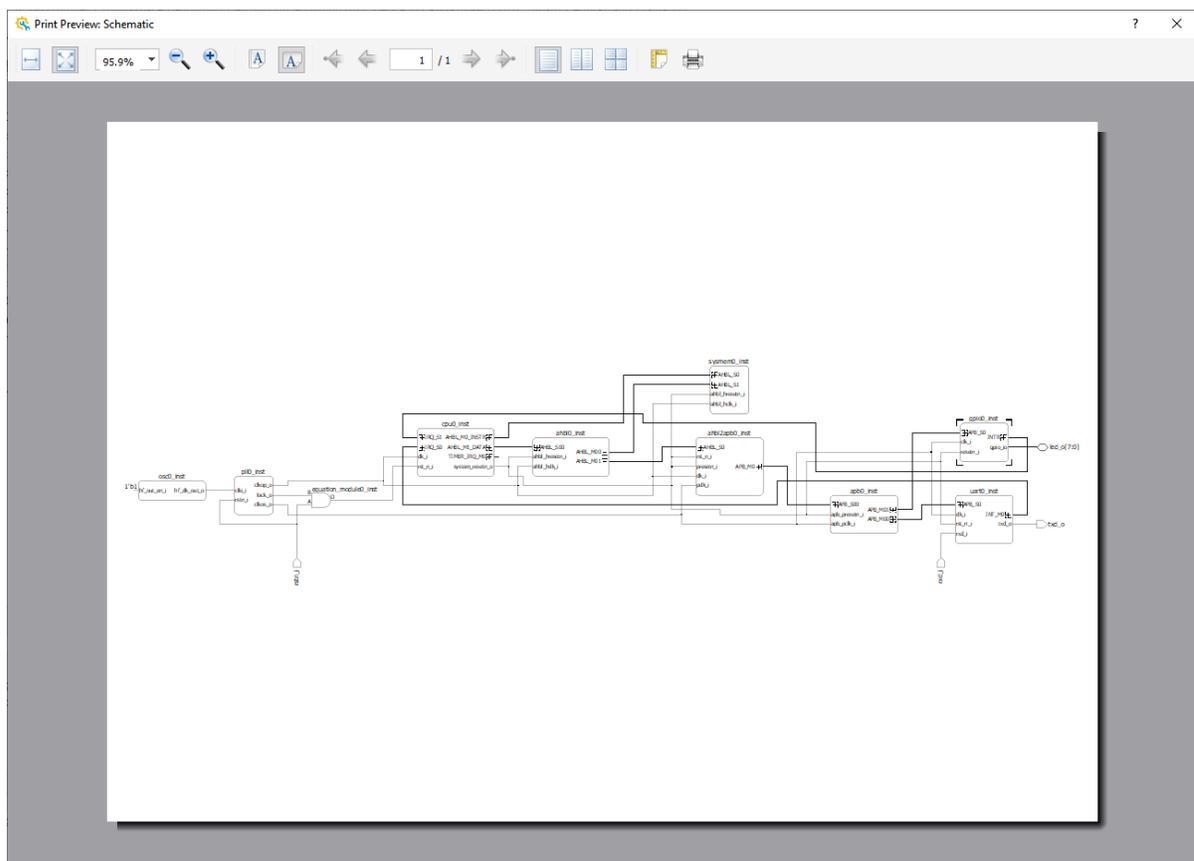

Figure 2.45. Print Preview
1. Choose **File > Print Preview**. The Print Preview window (Figure 2.45) opens.